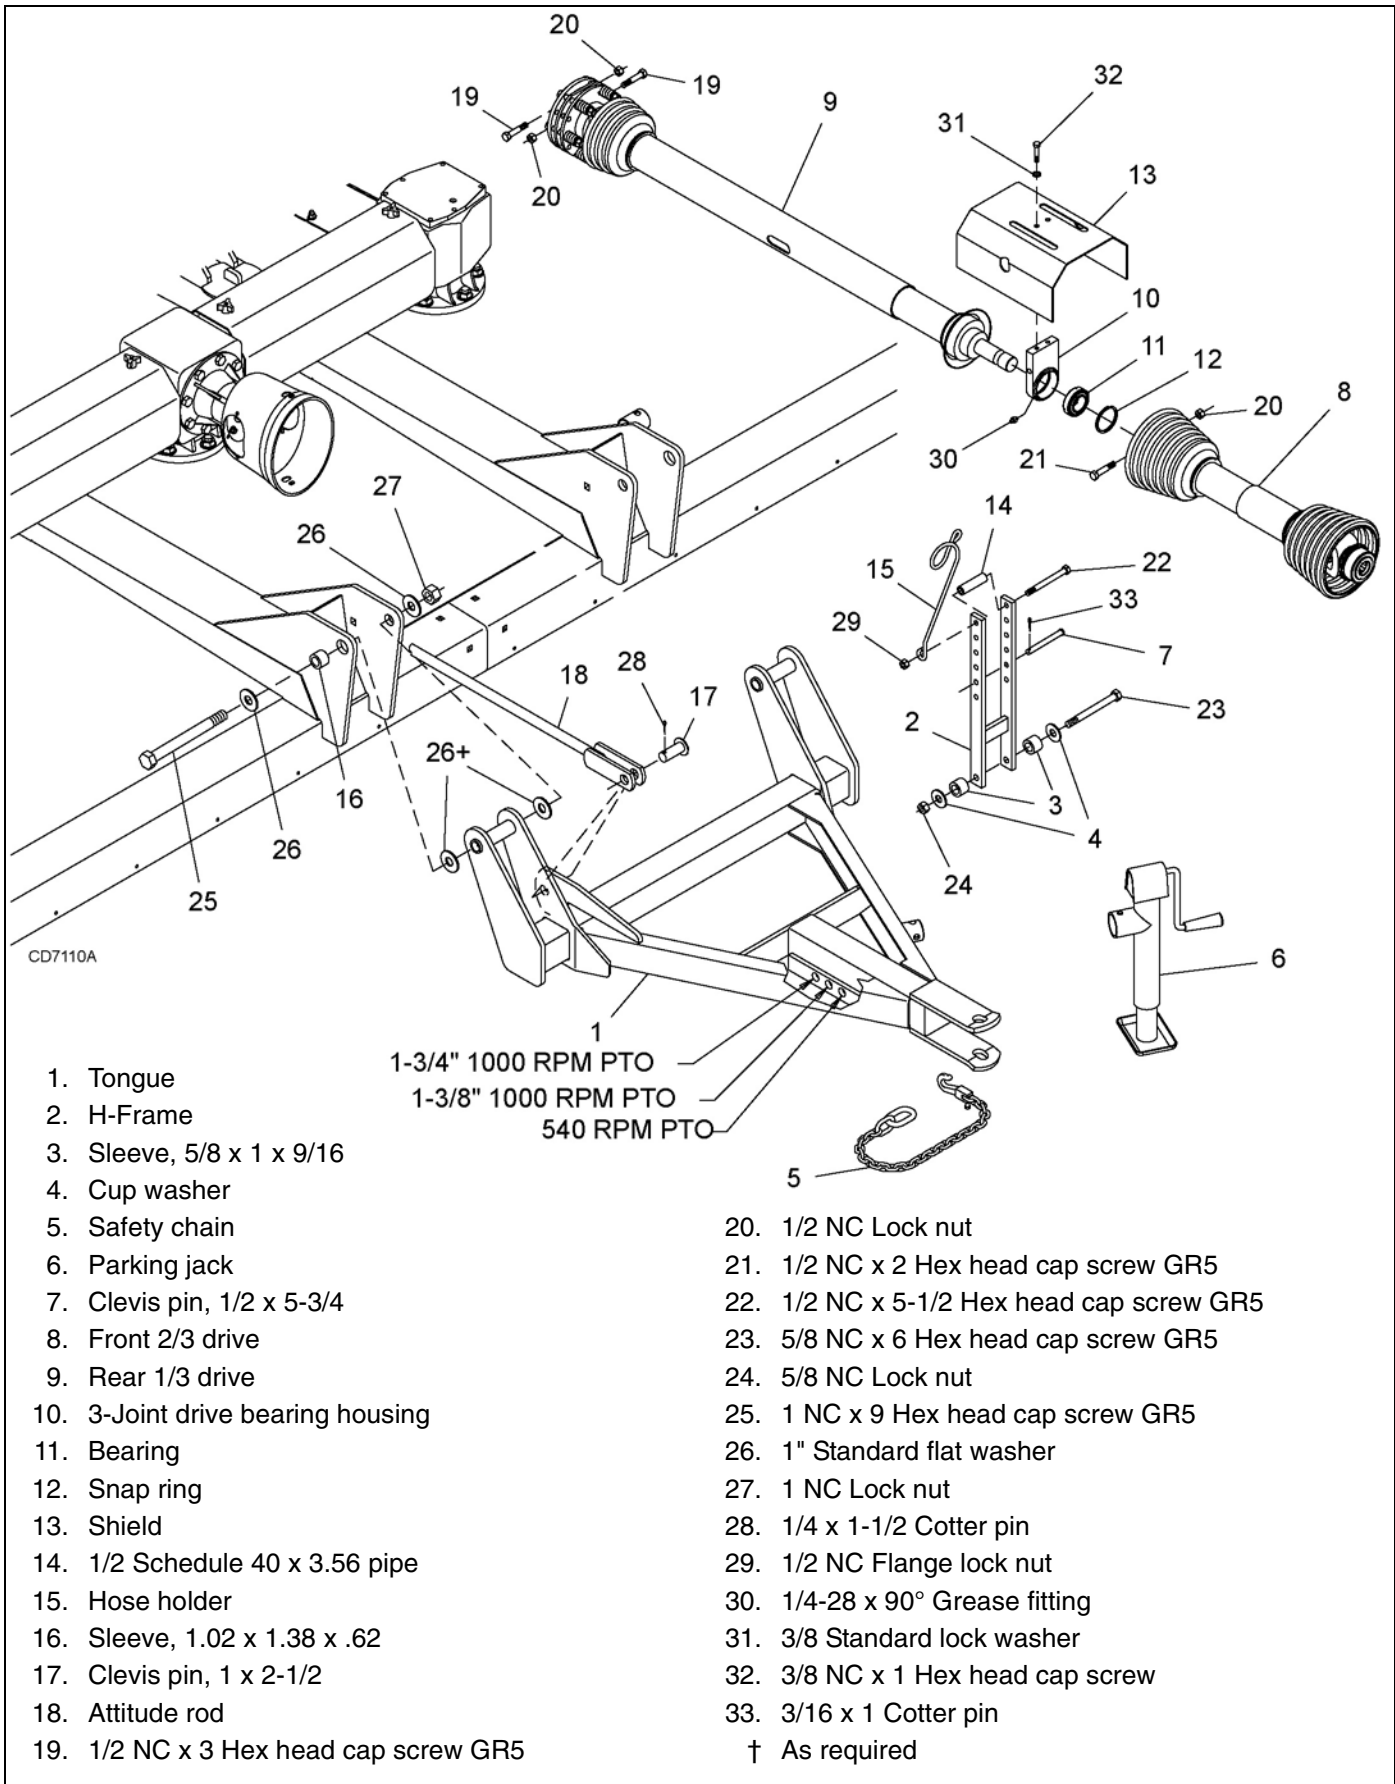

Figure 29. DS1260 & DS1440 Pull-Type Cutter Assembly - Front Half
FRONT HALF (Figure 29)
Install 3-Joint Driveline (Figure 29)
1. Place H-frame (2) in correct hole in bottom of tongue to maintain proper PTO distance (see **Figure 29**).
2. Secure H-frame to tongue using cap screw (23), two sleeves (3), two cup washers (4) and lock nut (24).